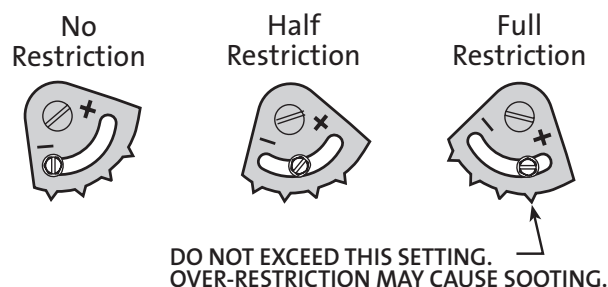
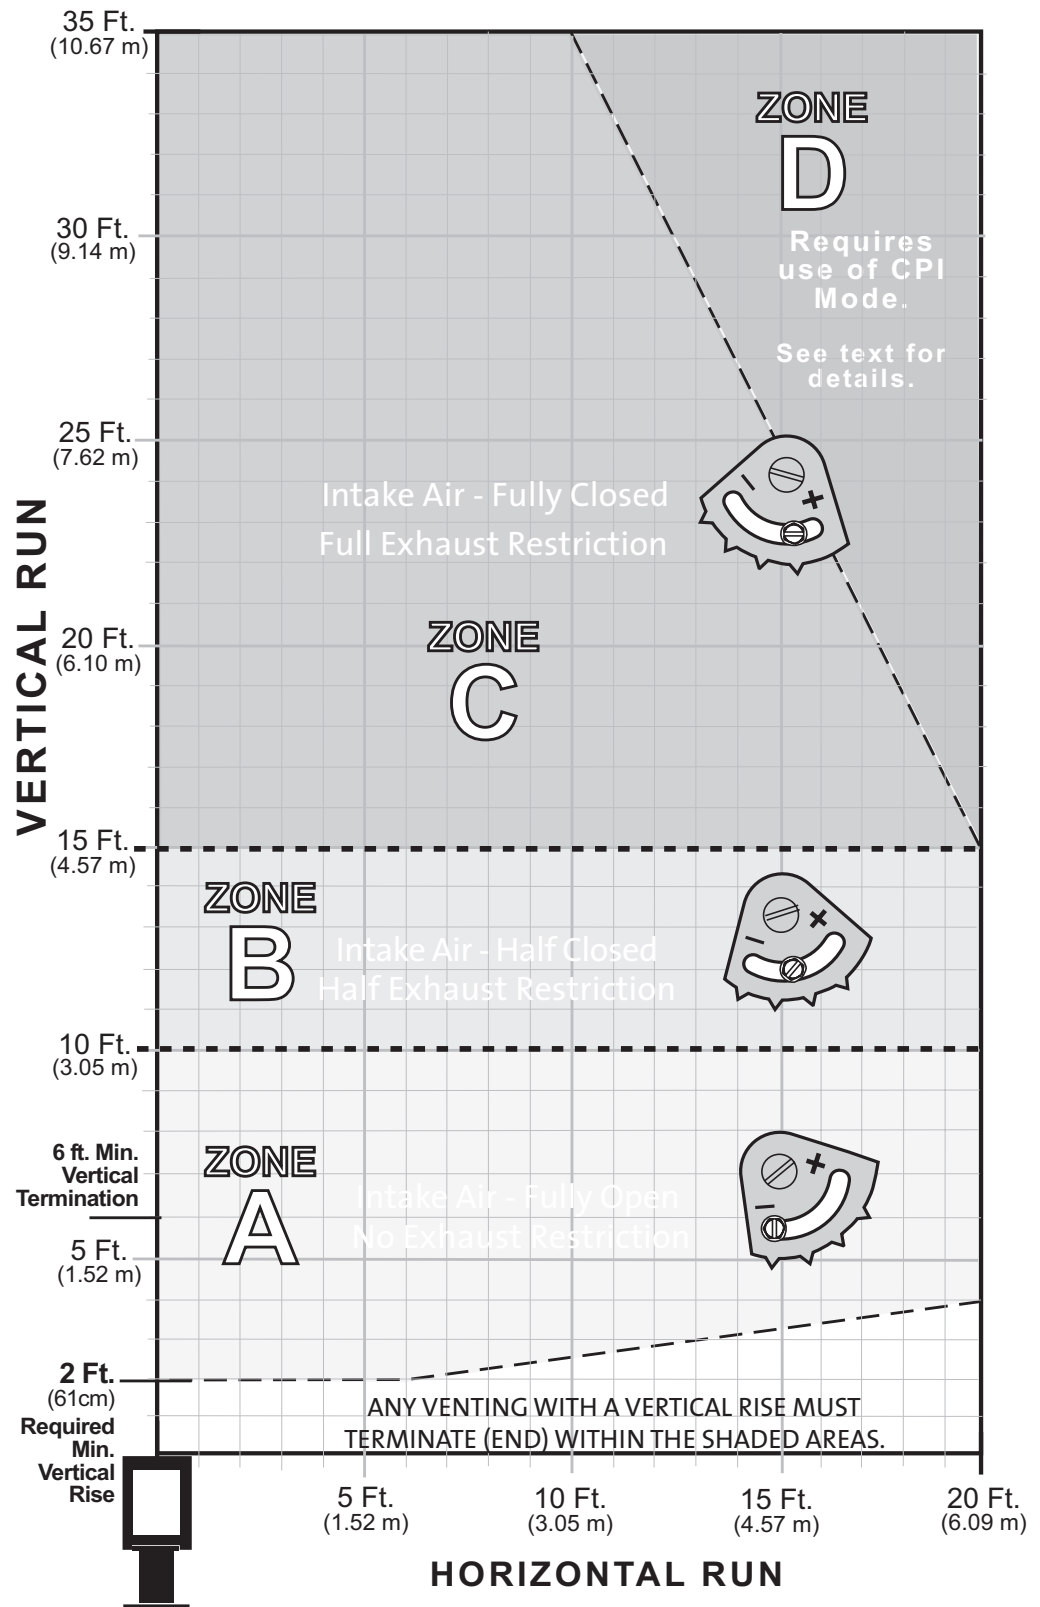

Figure 15. Exhaust Restrictor settings
Figure 17. Vent Termination Diagram.
1. Use the restrictor zone guidelines in the Vent Window Diagram, fig. 17. In masonry chimney, a fireclay liner or listed steel liner, must be contained within the entire length of the chimney.
Use the Vent Termination Diagram, fig. 17, to determine which zone your vent termination falls within and make the appropriate exhaust and air intake setting adjustments. Use these settings as general guidelines to start from. The final settings will ultimately be determined by the individual characteristics of your particular installation. There are no hard and fast rules.
2. Loosen the locking screw and turn the restrictor pivot plate to the appropriate indicator point as specified in the vent window diagram, figure 17. After the burner has been operating for 15 minutes, make any further adjustment in 1/8" increments until the desired flame picture is achieved. **Do not exceed the fully closed setting as shown in fig. 15.** Operate the burner for 10-15 minutes between additional adjustments.